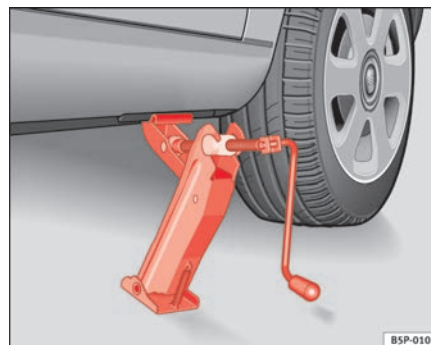

Fig. 153 Fitting the jack
- Align the jack so that the arm of the jack fits around the rib under the door sill and the movable base plate of the jack is flat on the ground ⇒ fig. 153.